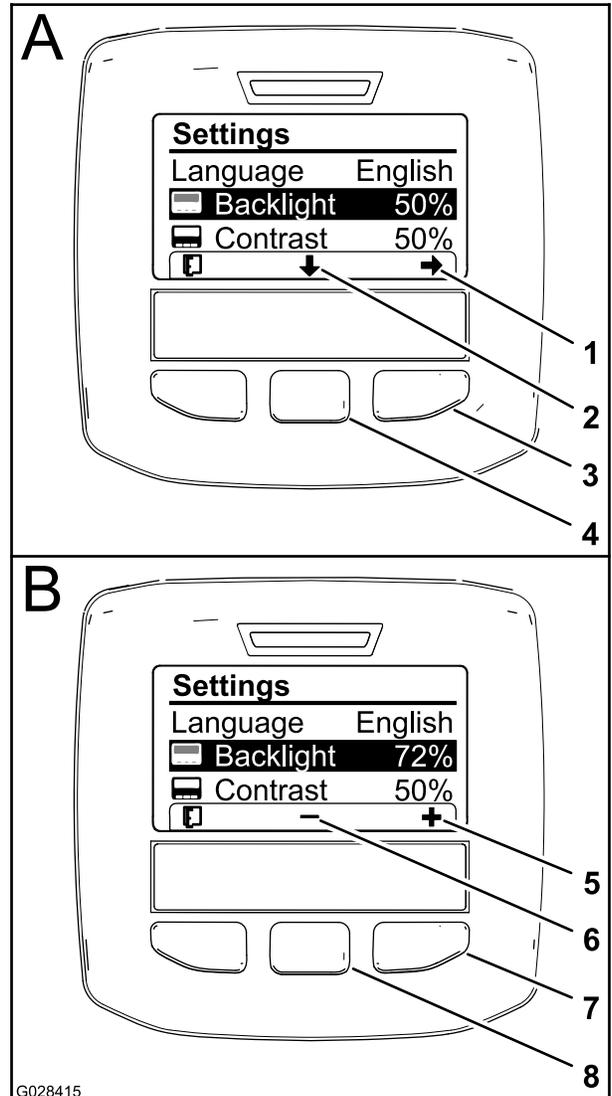

**Figure 9**
- To change the unit of measure, use the middle selection button to scroll to the UNITS option Figure 9.
- Press the right selection button to change the listed units of measure (Figure 9).
- To change the language used in the display, pressing the center selection button (the button below the down arrow in the display) to move the selected option to Language (Figure 9).
- Press the right selection button (the button below the list icon in the display) to highlight the listed language used in the display (Figure 9).